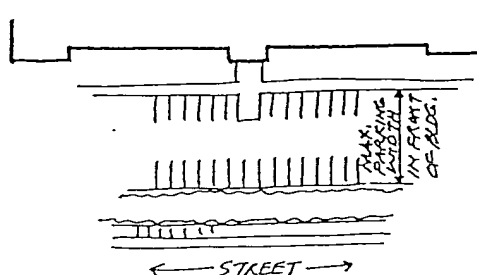

Figure 26
- ☐ *Limit parking areas in front of buildings to a maximum of two rows served by one driving aisle (Figure 26).*